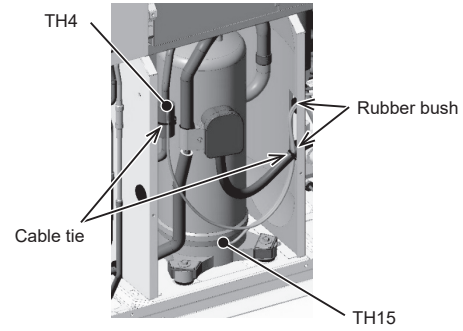

Figure 3
- (3) Cut the cable ties holding TH4 and TH15, and remove the wires from the rubber bushing on the compressor cover (right). (2 cable ties, Figure 3)